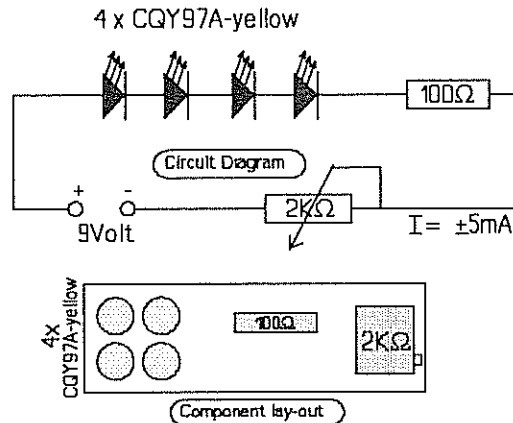

Figure 5
* 30 Lux can be achieved through a circuitry as in figure 5 on page F-8.
(5) FINAL EVALUATION